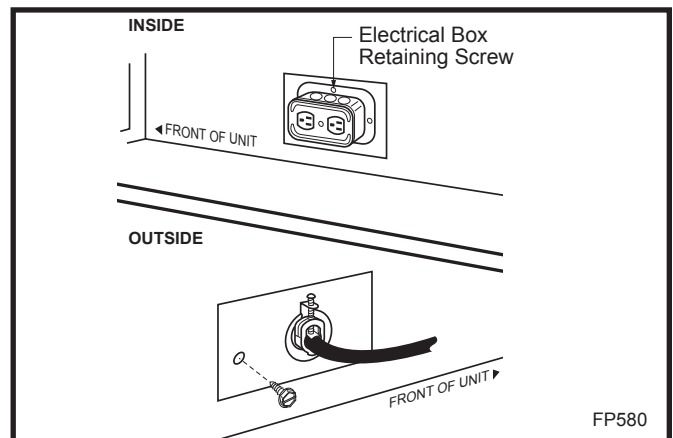

Fig. 8 EB-1 receptacle.
1. Unscrew retaining screw from EB-1 base plate (Fig. 8) and remove the EB-1 assembly from the appliance.
4. Feed the supply line in through the EB-1 opening in the side of the appliance and then through the back of the EB-1 assembly. (Fig. 8)